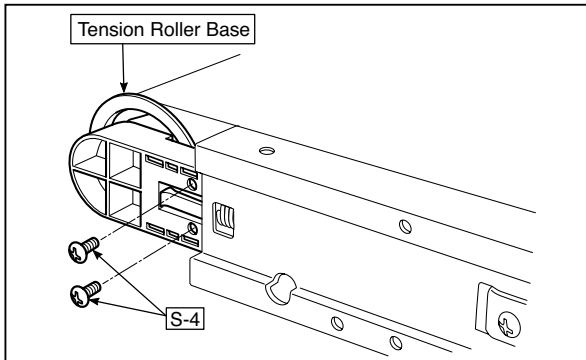

Fig.32
3. Remove the stopper "S-4" screws in the (two upper and lower) Tension Roller Bases shown in the figure 32.